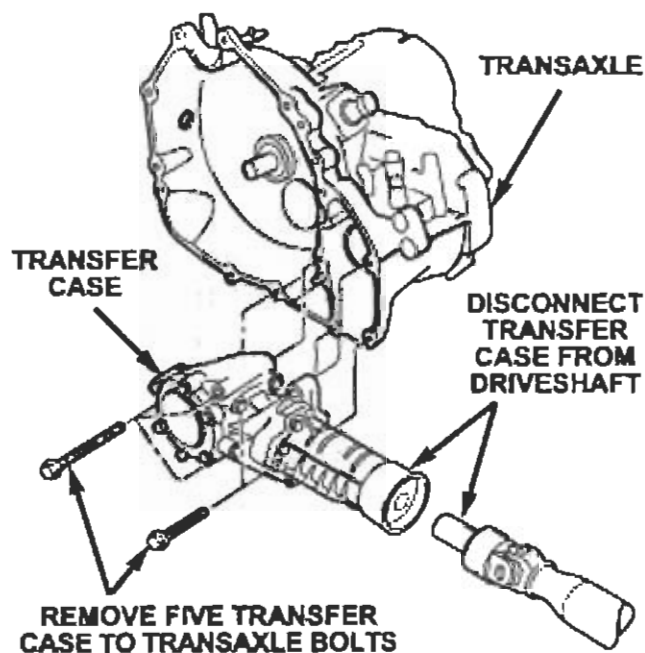

Figure 27
7. Remove the five bolts that secure the transfer case to the transaxle (Figure 27).
9. Remove the transfer case from the transaxle by tilting the case downward, then disconnect the transfer case from the drive shaft (Figure 27). Set the transfer case aside for return to the Warranty Material Return Center.
- Insert the driveshaft into the transfer case and then mount the transfer case onto the transaxle (Figure 27).
- Install the transfer case mounting bolts and tighten the mounting bolts to 65 ft-lbs (87 N·m) (Figure 27). Remove the temporary driveshaft support.